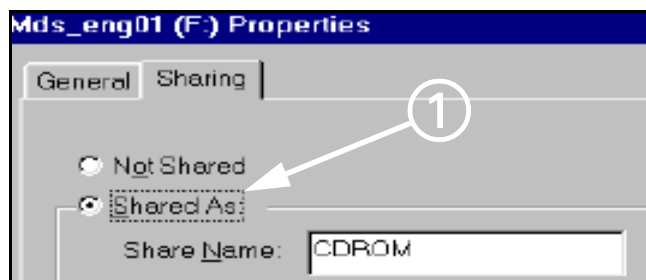

Figure 3-7 Properties Window
- At "Properties" window, click on *Shared As* button (① in Figure 3-7), type **CDROM** in "Share Name:" box, click on *Apply*, then click *OK*.